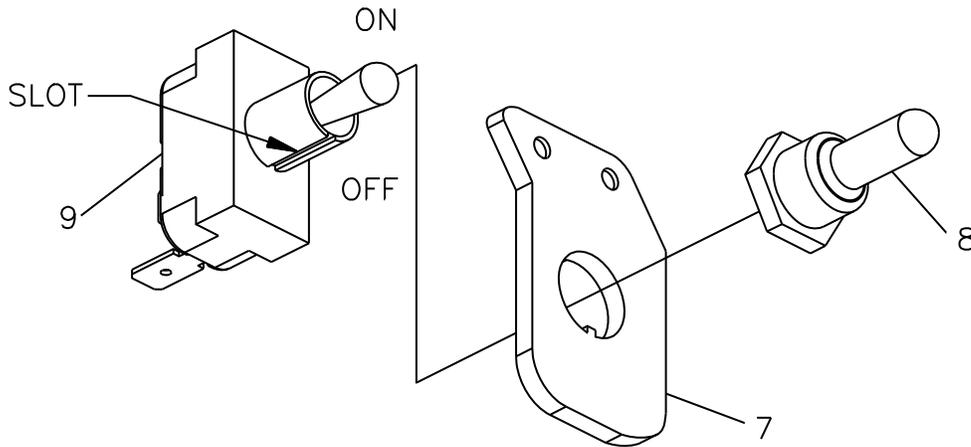

Figure 5. Assembly and Mounting Orientation of Toggle Switch
5. Locate a spot on the dash to install Switch Mounting Plate (6). Install using two Sheet Metal Screws (10).
Note: The slot in Toggle Switch (5) indicates the OFF position. Refer to Figure 5.
6. Assemble Toggle Switch (5) into Switch Mounting Plate (6). Secure using Switch Boot (4).
8. Attach Weather Cap (9) to the large plastic plug (at the rear bumper) on Rear Vehicle Harness (7). Weather Cap (9) should be left installed when the Vibrator is not being used.